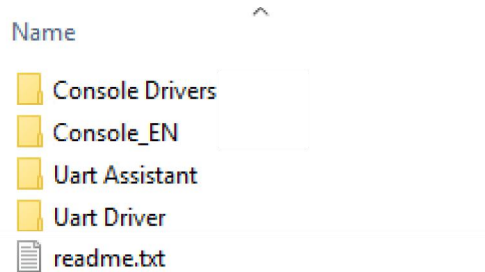
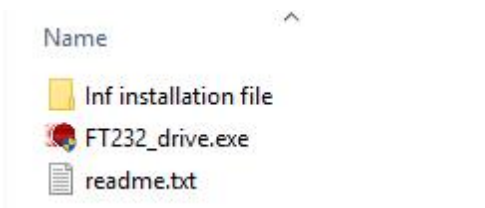
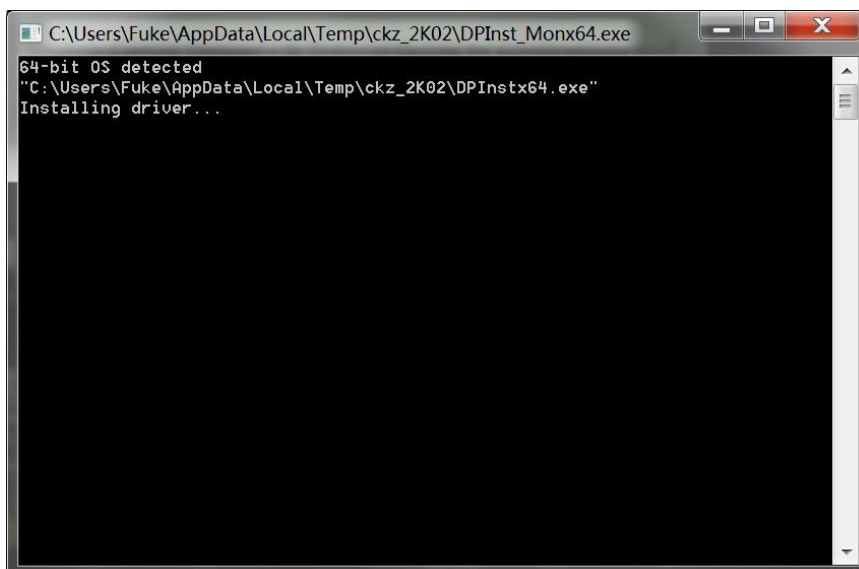
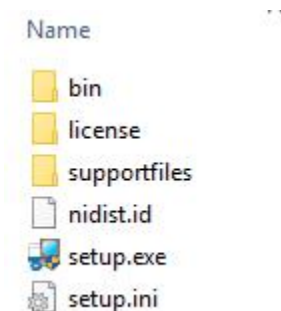

Fig.27 Software files
Fig.28 “Uart Driver” files
Fig.29 FT232 Driver Installing Interface
Fig.31 “SE1201_Console Drivers” File
The required software is provided with the CD disk as below in Fig.27.
- (1) Double-click “FT232_drive.exe” in Fig. 28 in the fourth file “Uart Driver” in Fig.27 and then you can see the Fig.29, which shows the installation is running.
- 1) You need to open the first file “SE1201_Console Drivers” in Fig.27 and start to install just as shown in Fig 31.
- 1) Open the second file “SE1201_Console_EN” in Fig 27. This file contains Chinese and English application software and they both can operate in Windows 7/XP.